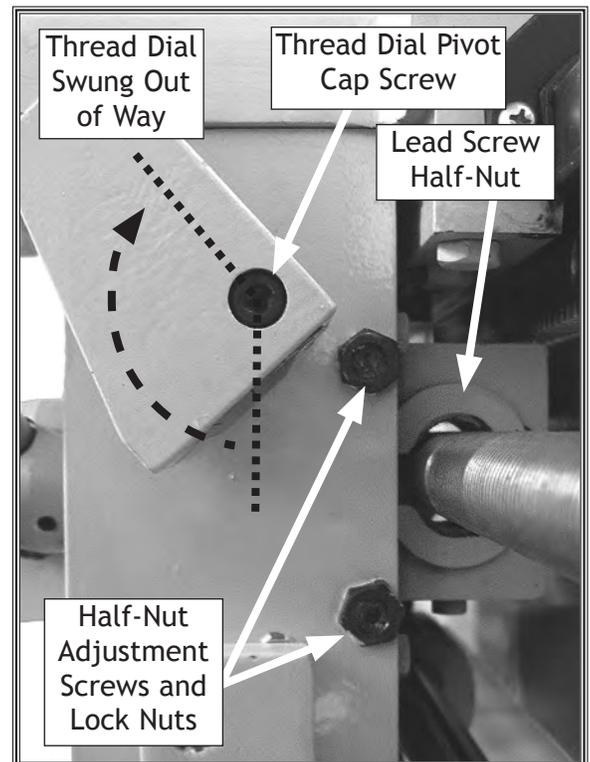

Figure 63. Half-nut gib adjustment location.
1. Engage the half-nut lever, loosen the thread dial cap screw, and rotate the dial out of the way (**Figure 63**).